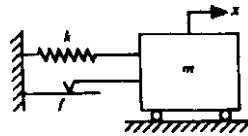

Fig. 2
1. Figure 2 shows a single degree-of-freedom system with Coulomb damping. The mass is excited by a harmonic force $F \cos \omega t$. Slip across the damper takes place when the friction force reaches the value f . Determine the approximate steady-state amplitude by using the concept of equivalent viscous damping. Discuss the effect of approximation. (10+2)